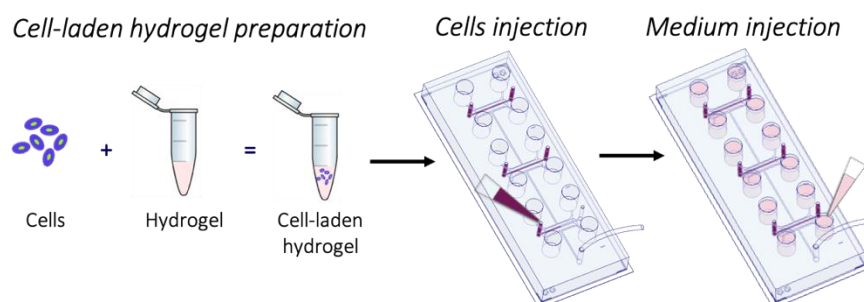

Figure 5 – Schematic process to seed cells into uBeat® Platform
- d) As summarized in Figure 5, prepare your favourite cell-laden hydrogel to be inoculated in the device: a total solution of 10µl is enough to seed one uBeat® Platform. Adjust cell density (cell density that has been tested in our models ranges between 10 and 100 M cells/ml) and hydrogel concentration according to your specific application (an example for cartilage formation in fibrin gel is provided in section 16).